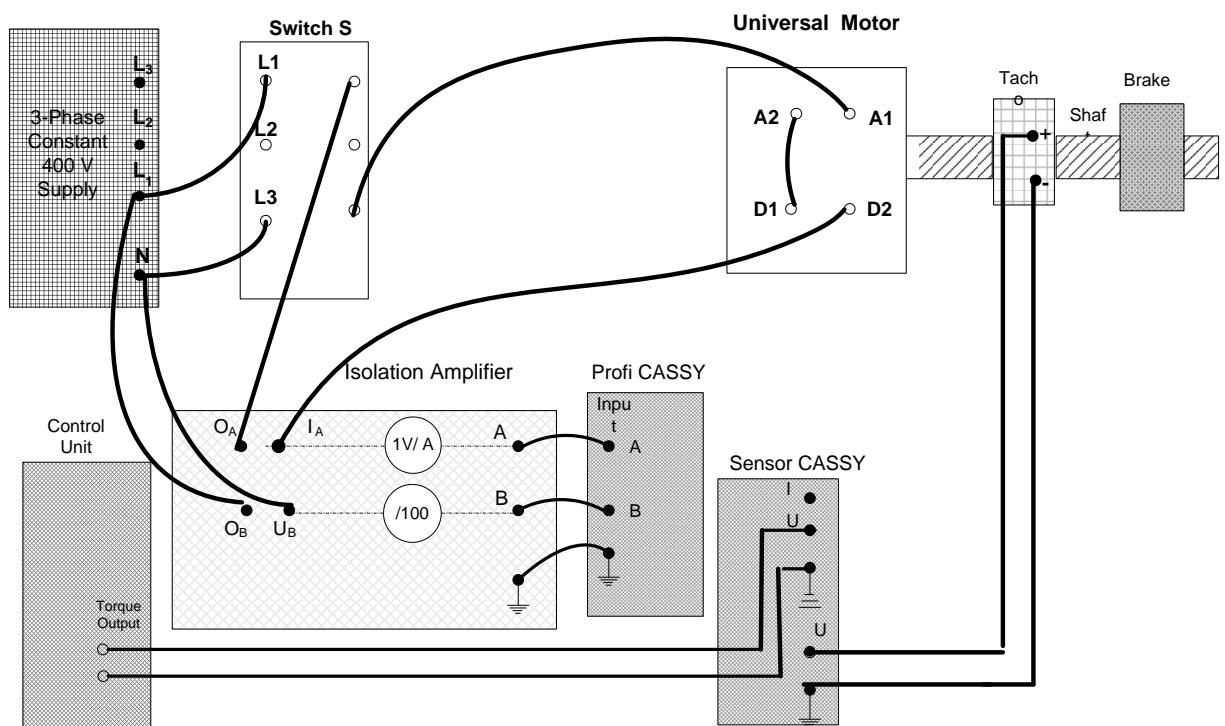
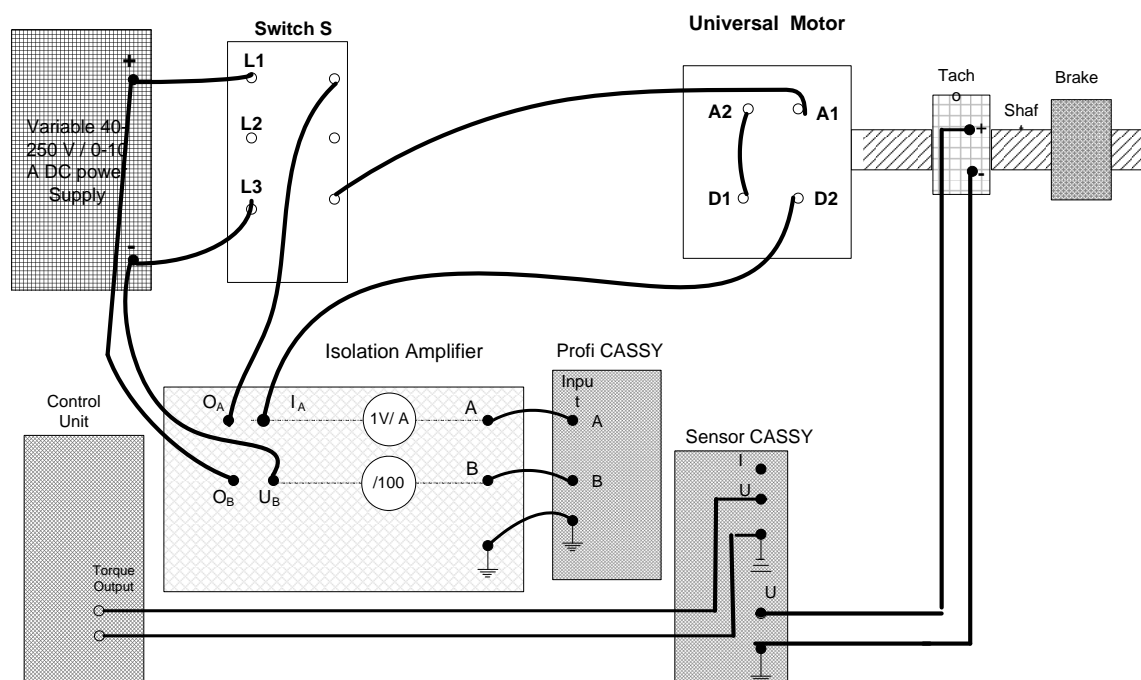

Figure 2: Wiring diagram of AC operated Universal motor
Figure 3: Wiring diagram of DC operated Universal motor
1. Connect the "**Universal motor**" according to the circuit diagram shown in Figure 2.
1. Connect the "Universal motor" according to the circuit diagram shown in Figure 3. **Notice that the only difference from Figure 2 is that L1 is replaced by + DC and N is replaced by –DC.**